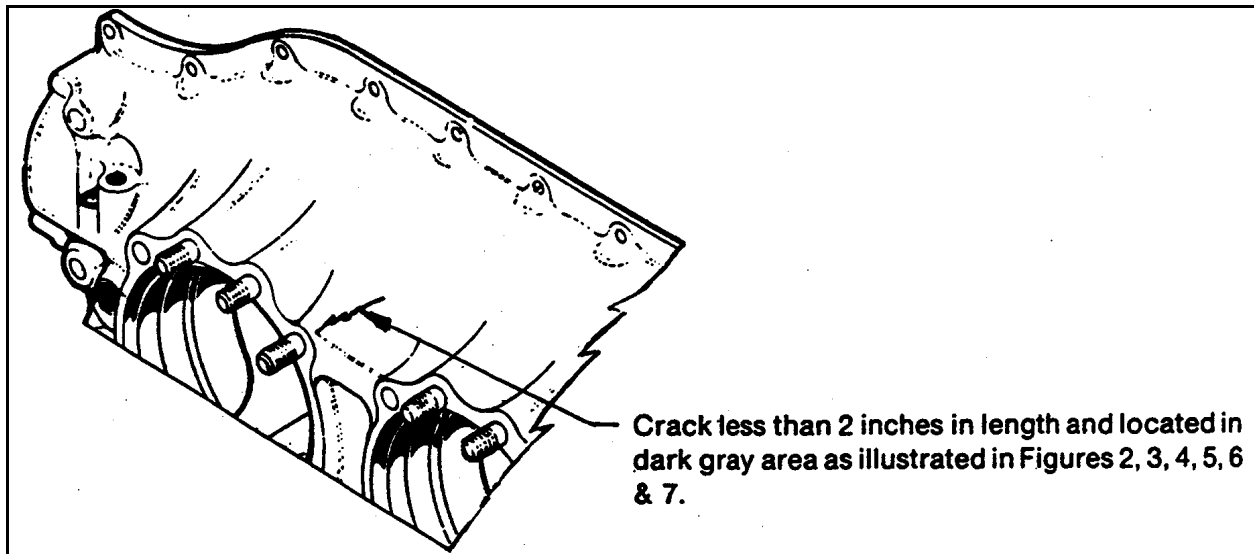
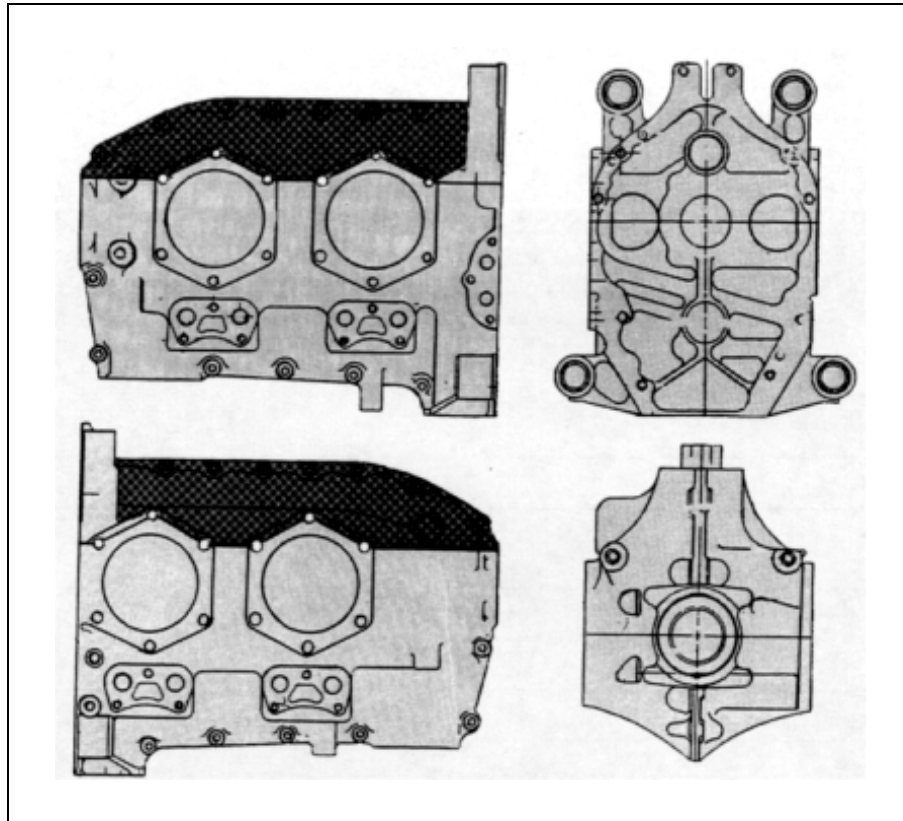

Figure 1
FIGURE 2 O-200 CASE
Critical (gray) and non-critical (dark gray) areas are illustrated in Figures 2,3,4,5,6 & 7. If a crack is observed in any of the non-critical (dark gray) areas less than two (2) inches in length, the crack should be scribe marked at its extremities and re-inspected for crack progression at the next 50 hours of operation, see Figure 1. If no crack progression is observed and no additional cracks are found, continue to re-inspect at regular intervals not to exceed 100 hours duration.